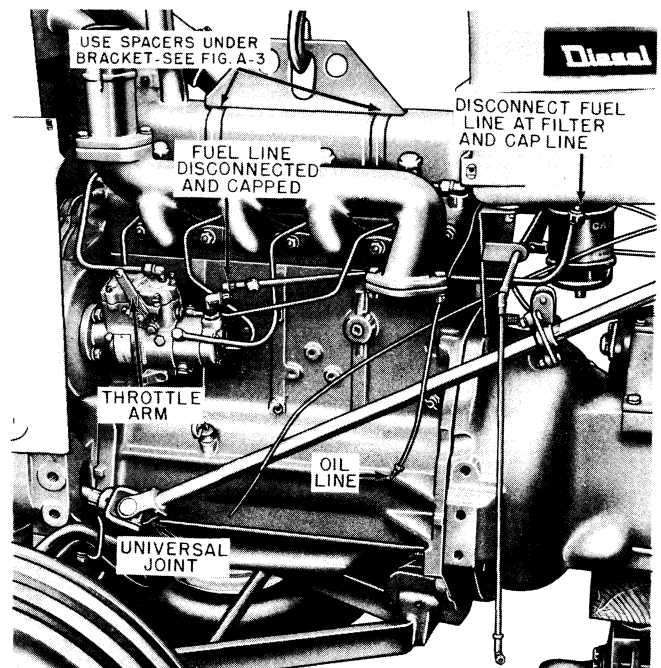

Fig. A-28 L.H. View - Splitting Engine from Torque Tube
20. Disconnect oil pressure line at block. Fig. A-28.
21. Support steering shaft and drive roll pin from universal joint. If shaft is not supported when removing roll pin a sprung shaft and damaged bearings in steering gear housing may result. Slide universal joint rearward on shaft. Fig. A-28.